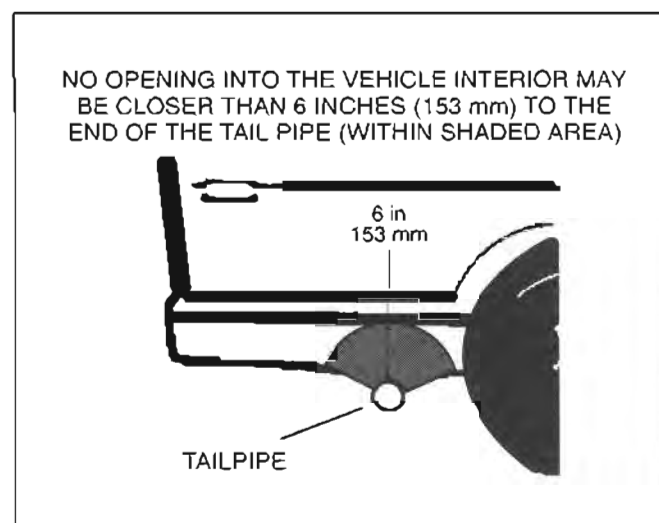

FIGURE 6. MINIMUM DISTANCES TO OPENINGS
6. Do not terminate the tailpipe such that it is closer than 6 inches (153 mm) to any opening, such as a door, window, vent or unsealed compartment, into the vehicle interior (Figure 6)